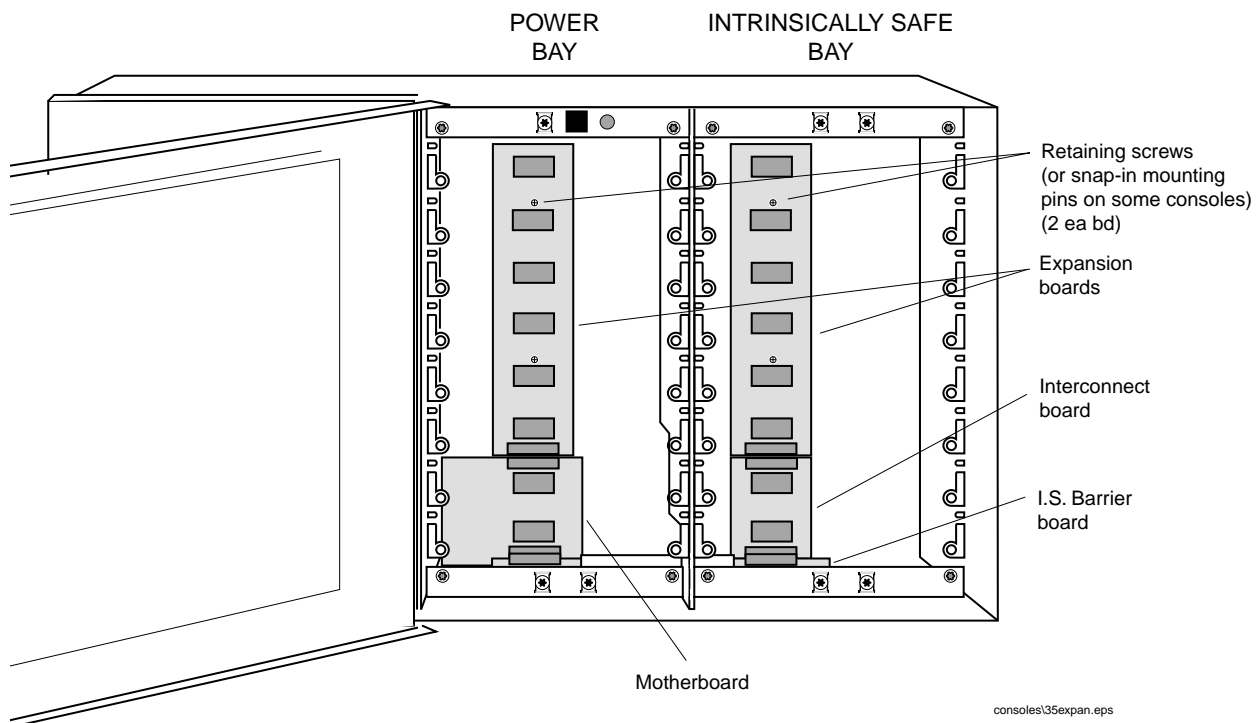

Figure 1. Expansion Board installation
Figure 1 shows an Expansion Board installed in each bay of the console (installation is the same in either bay).
4. Align the Expansion board connector with the connector on the motherboard or I.S. Barrier board (see Figure 1).
6. Align the two (2) holes in the Expansion Board with the two PEM nuts shown in Figure 1 and screw in the two retaining screws (on consoles with snap pins, press in carefully on the board until the pins snap in the holes).